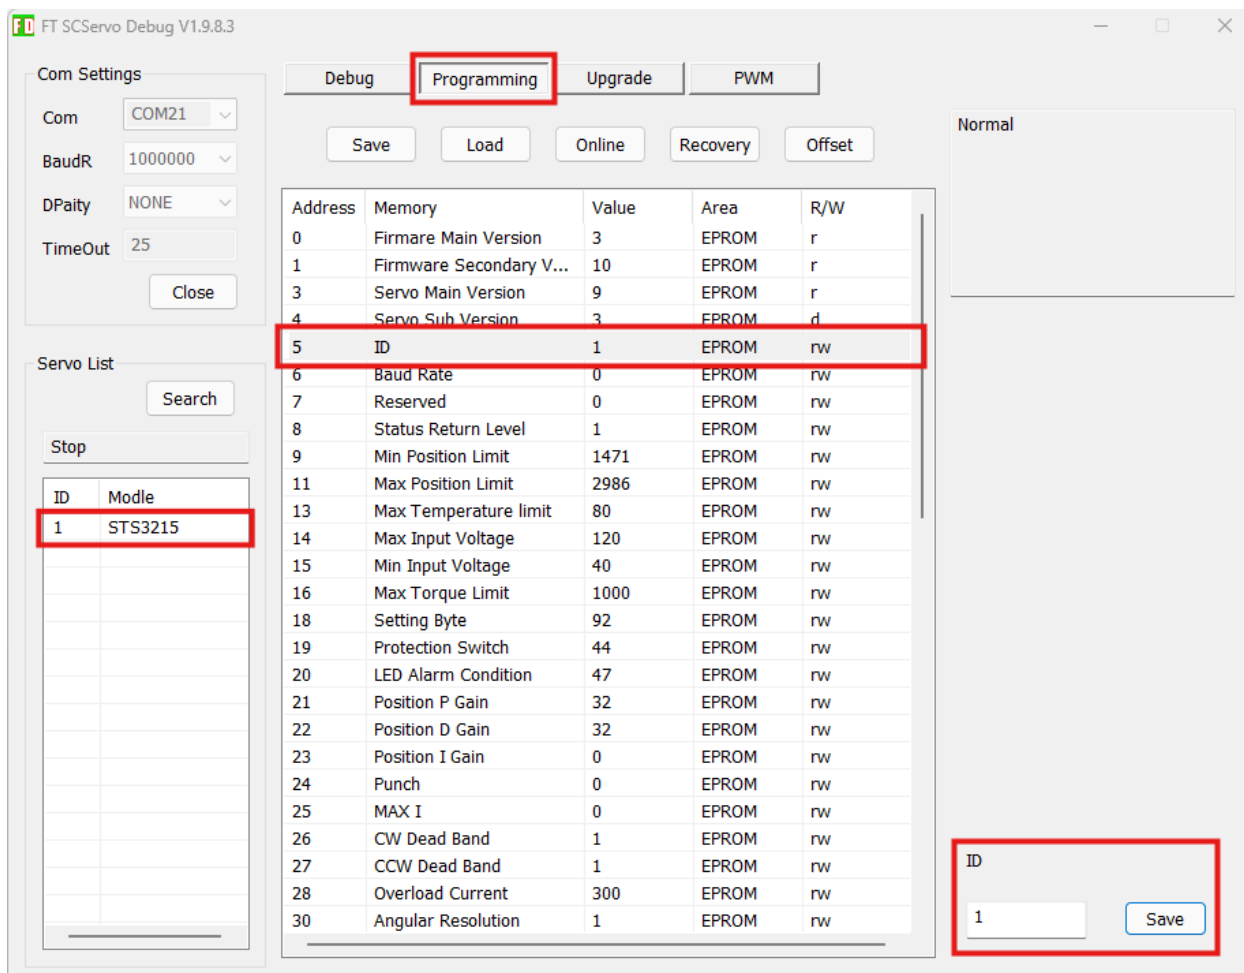

Figure 2.3 - Servo Programming Tab
7. Select the motor from the Servo List and select the "Programming" Tab as shown in Figure 2.3. Then select the ID in address 5 and change it to the desired ID in the bottom right corner as shown in Figure 2.3